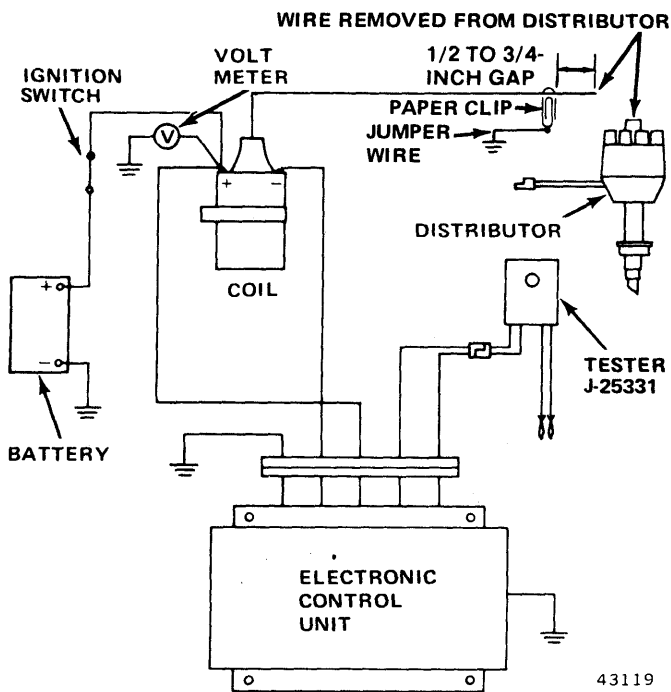

Fig. 3-52 Voltmeter Connected to Coil Positive Terminal
(11) Connect voltmeter between coil positive (+) terminal and ground (fig. 3-52). With ignition switch ON, voltmeter should read battery voltage. If voltage at coil positive terminal is noticeably lower than battery voltage, a high resistance exists between the battery (through ignition switch) and the coil. Before proceeding, the resistance must be corrected. If voltage at coil positive terminal equals battery voltage, proceed to step (12).